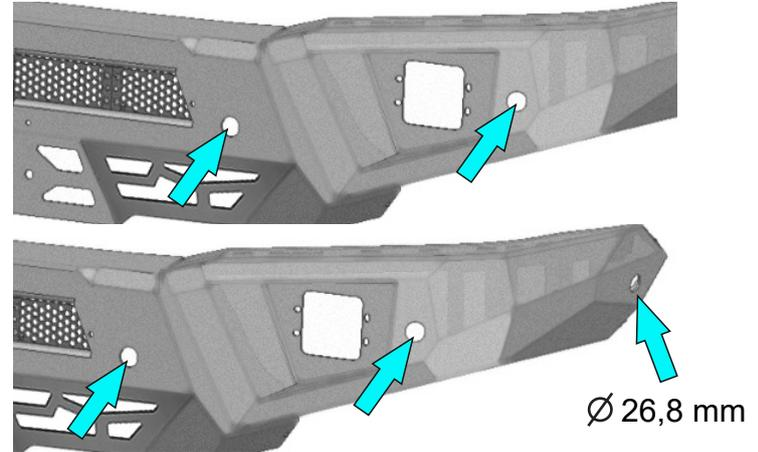

Fig.45
45. In case if your vehicle has 4 parking sensors, hammer out 4 plugs, on assembled bumper, placed closer to center. If your vehicle has 6 parking sensors, then hammer out all plugs of the bumper. Drill holes to diameter of 26,8 mm on both sides as shown in fig 45.